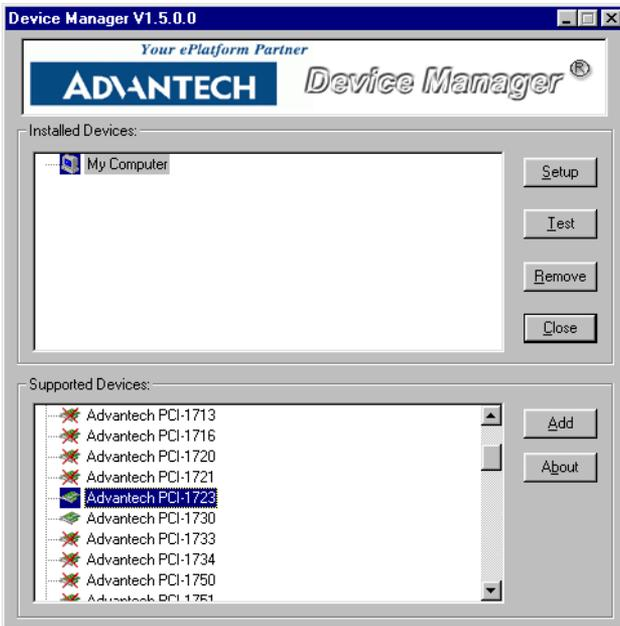

Figure 2.4: The Device Manager Dialog Box
2. You can then view the device(s) already installed on your system (if any) on the Installed Devices list box. Since you have not installed any device yet, you might see a blank list such as the one below (Fig. 2-4).